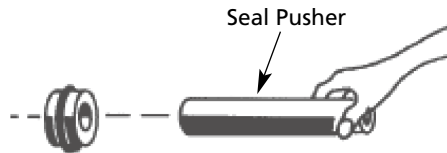

Figure 16
2. Apply oil lightly (DO NOT use grease) on the stationary parts of the mechanical seal. Remember to push back the mechanical seals by using the seal pusher as in Figure 16, and to replace the o-ring and the seal cover screws.